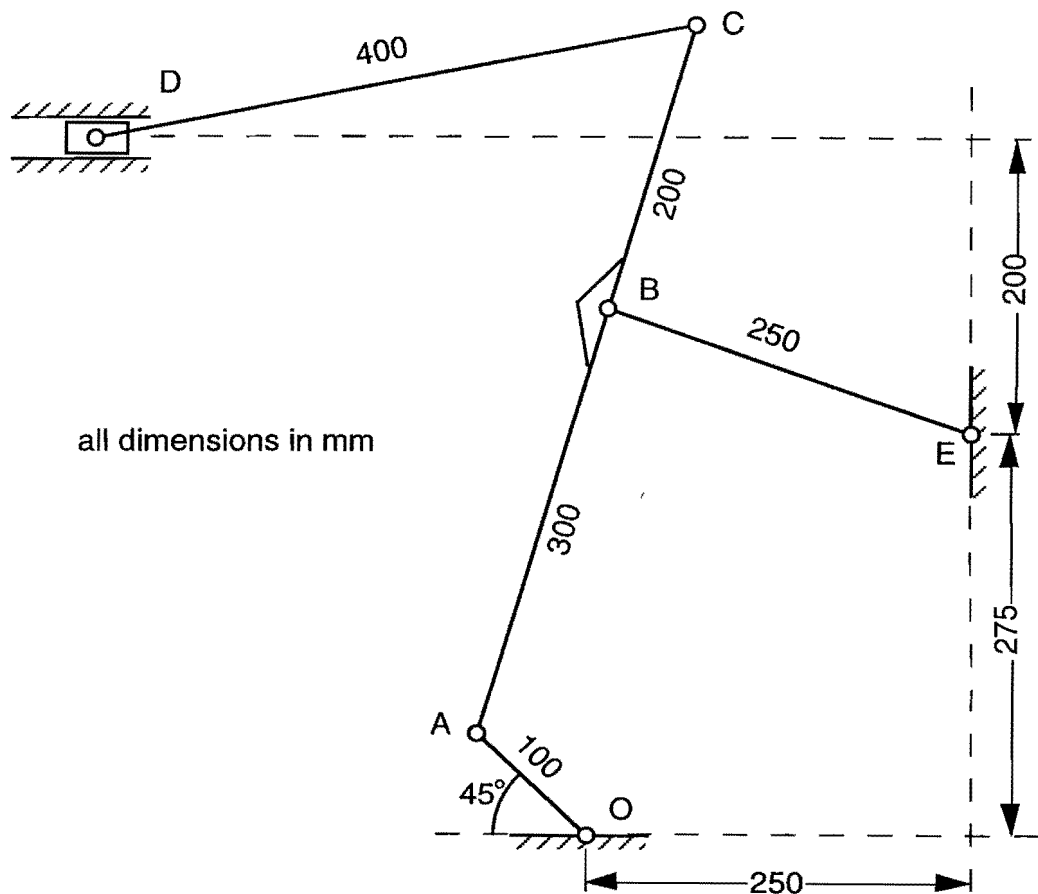

Figure 1
1. The crank OA of the mechanism in Fig. 1 rotates anticlockwise at 5000 rpm. Link ABC is a continuous rigid link pinned to the link BE at B. By drawing a velocity diagram, determine the velocity of the ram D in the given position and the angular velocities of the links ABC, EB and CD.
Fig 1 is drawn approximately to scale. The suggested scale for the velocity diagram is 1 mm to represent  $1 \text{ ms}^{-1}$ . Locate the instantaneous centres for ABC and CD on the space diagram.
4. (a) The ram D in the mechanism shown in Fig. 1 is *opposed* by a force of 1 kN.